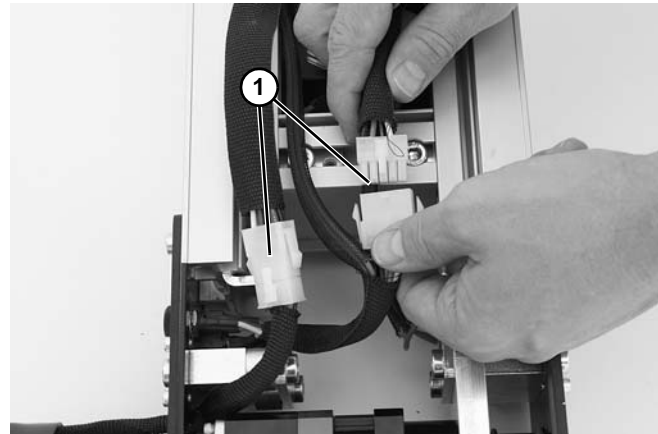

Figure 154
- Disconnect two wiring harness connectors (Figure 154, item 1).